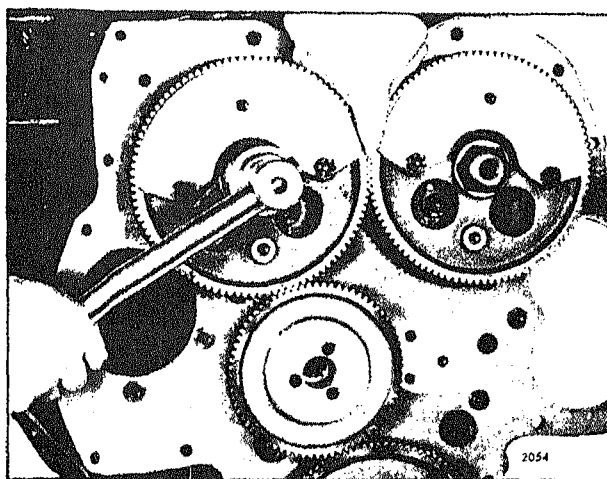

Fig. 1 - Removing or Installing Nut on Camshaft or Balance Shaft
7. Wedge a clean rag between the gears as shown in Fig. 1; then, remove the nuts from each end of both shafts with a socket wrench.